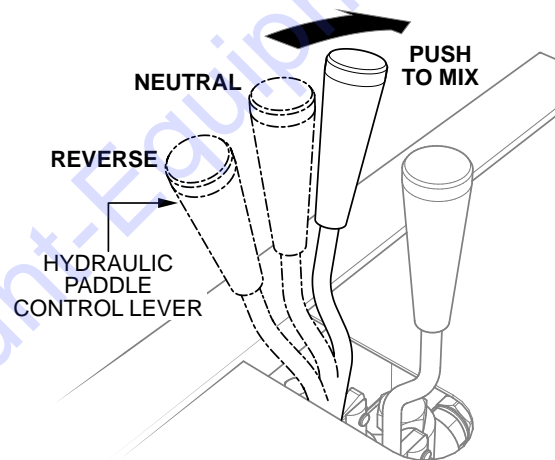

Figure 19. Hydraulic Paddle Control Lever (Mix Position)
1. Push the hydraulic paddle control lever (Figure 19) forward for clockwise mixing rotation of the paddle blades.